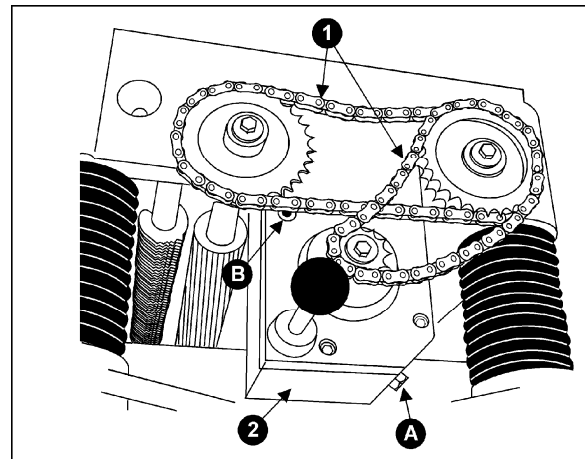

Figure 33
1. Remove the drain plug (A, Figure 33) with a 14mm wrench, and remove filler cap (B- Figure 33). Drain dirty oil thoroughly.
2. Tighten the drain plug (A, Figure 33).
3. Fill with clean lubricant through hole (B, Figure 33).
4. Tighten filler cap (B, Figure 33).